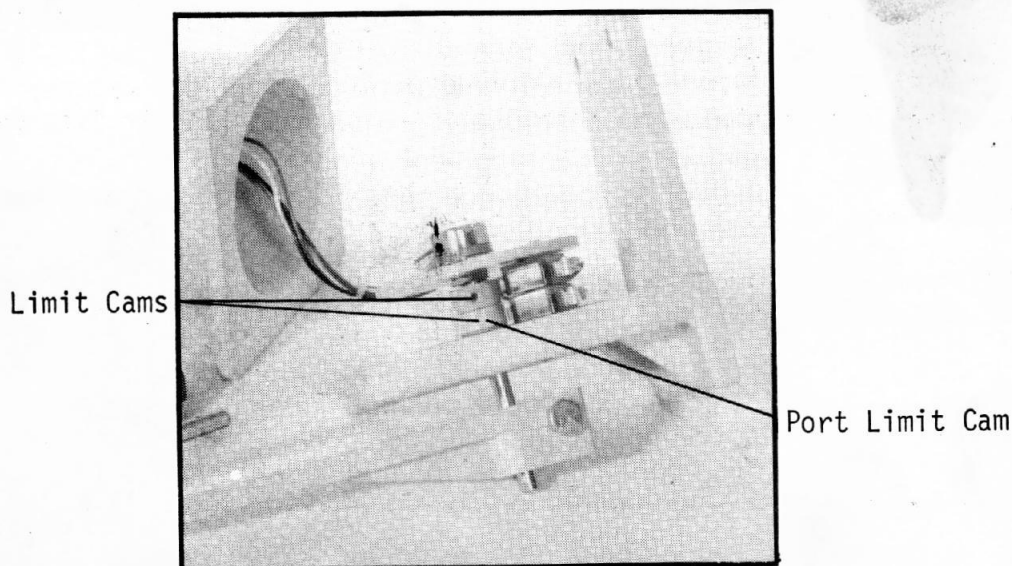

FIGURE 53. RPT WITH COVER REMOVED
4. Using a .050 allen wrench, loosen both limit cams shown in Figure 53.
8. Using the .050 allen wrench, rotate the lower cam until the large portion of the cam just engages the limit switch to produce a "click". Rotate the cam back and forth to a point where the cam just engages the plunger on the limit switch to "open" the switch. Tighten the cam in this position. See Figure 53.